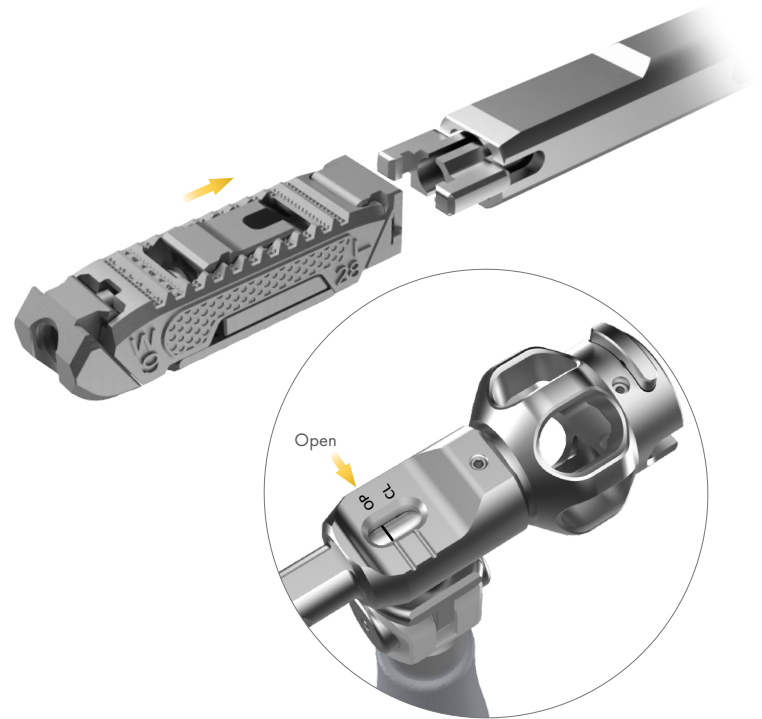

Fig. 6
Select the implant that corresponds to the previously selected trial size and securely attach the implant to the Cage Inserter (367.7500). Ensure locking mechanism is in its Open(OP) state. To secure the implant to the Cage Inserter, insert the grip prongs on the distal end of the Cage Inserter onto the implant. (Fig. 6)